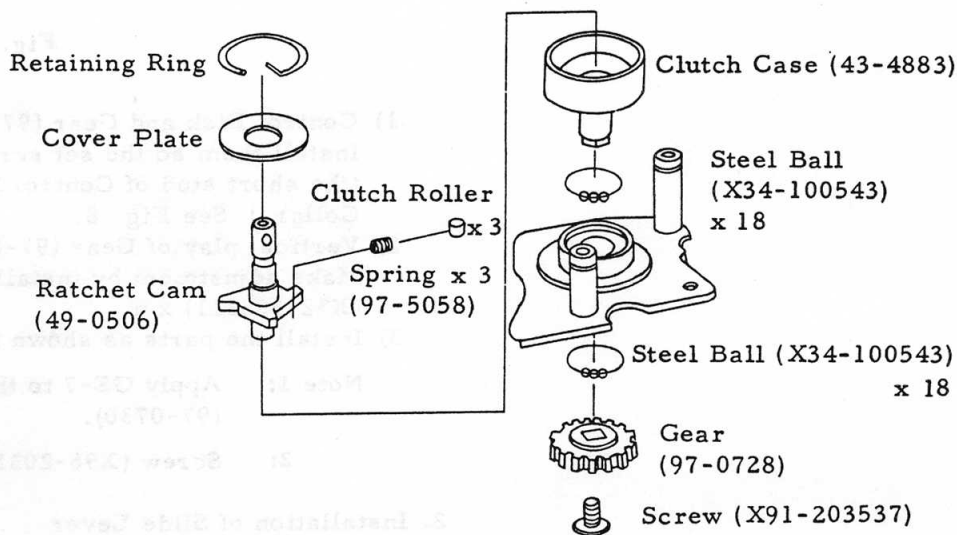

Fig. 10
1. Install the parts as shown in Fig. 10.
1) Install the parts as shown in Fig. 10.